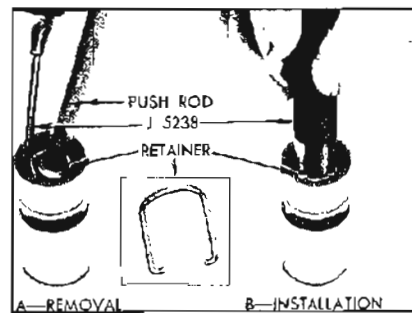

Figure 2-34—Removing and Installing Plunger Retainer
1. Disassemble each valve lifter by using a push rod to hold down the push rod seat while removing the plunger retainer from the lifter body, using Retainer Remover J-5238. See Figure 2-34, View A. Remove push rod seat and plunger from lifter body.
3. Rinse push rod seat and plunger retainer, place these parts in end of body and depress with handle of Remover J-5238 until retainer engages groove in body. See Figure 2-34, View B.